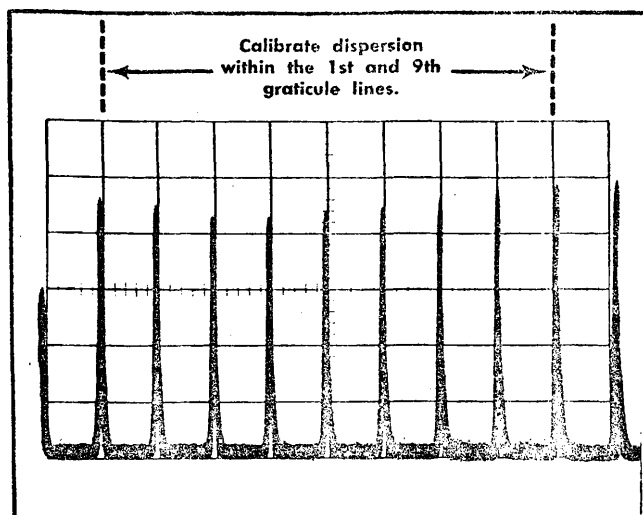

Fig. 2-9. 1 MHz Markers Output signal (phase lock reference) applied to the RF INPUT connector to check dispersion calibration.
d. Adjust the DISP-CAL for 1 marker/centimeter. See Fig. 2-9. Use the Horizontal Position control or the IF CENTER FREQ control to align the markers to the graticule lines. Dispersion is calibrated over the center 8 centimeters of the display.
2. Apply the 1 MHz CAL MARKERS OUT signal to the RF INPUT connector. This should provide a picket fence display. See Fig. 2-9.